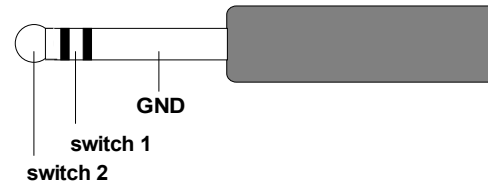

fig. 2: connection diagram for the double footswitch
Socket ⑧ is the input for a double footswitch. It is designed to take a stereo 6.5mm jack plug. The connection diagram is shown in fig. 2.
The chosen footswitch must be one that breaks rather than makes the connection. The DOEPFER footswitch design fits that criterion, and also uses the connections shown in fig. 2.